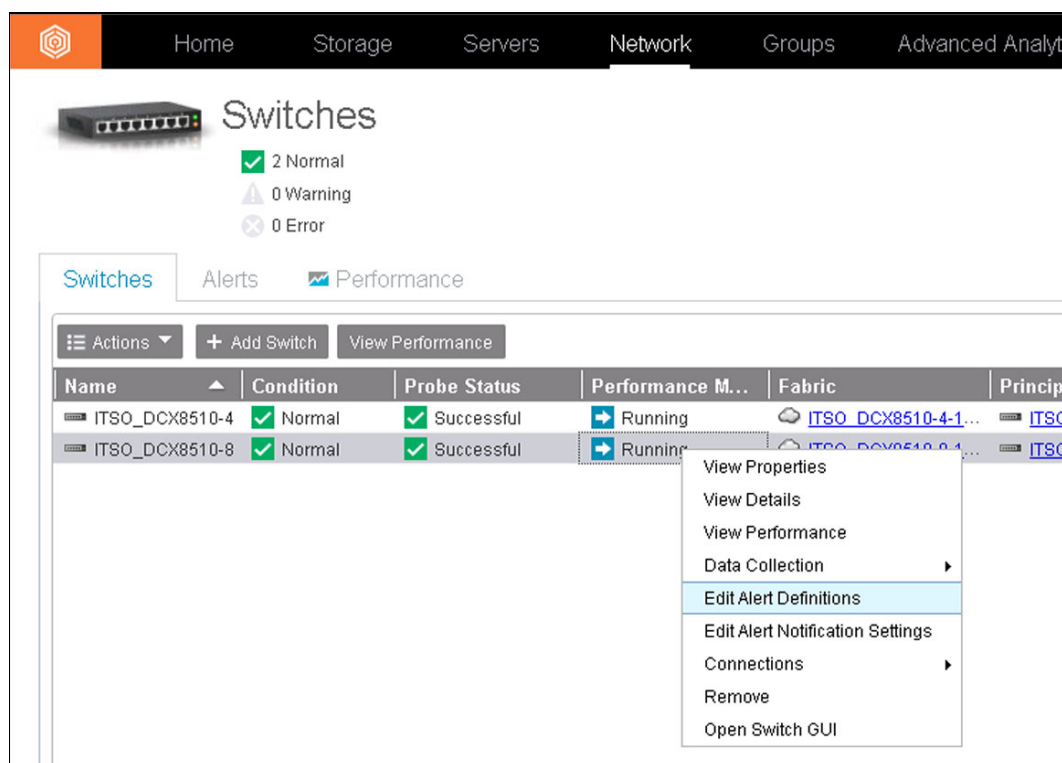

Figure 6-40 Editing alert definitions
2. In the Switches view, right-click the switch that you want, and then select **Edit Alerts Definitions**, as shown in Figure 6-40.